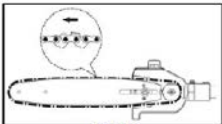

Fig. 16
Proper tension is extremely important ! (Fig. 16, 17 & 18)
1. Confirm the direction of saw chain (1) is correct as in the figure and align the chain on the sprocket. Fig. 16